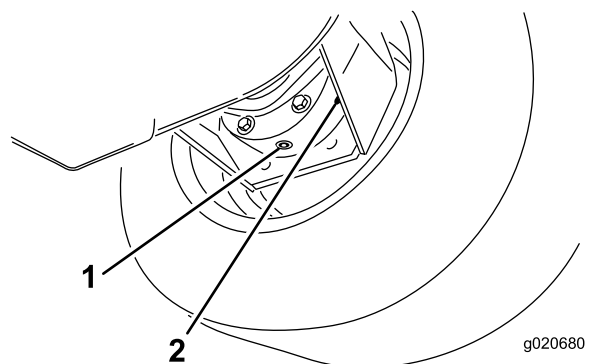

Figure 71
3. Place a drain pan under the brake housing, remove the drain plug, and allow the oil to drain (Figure 71).